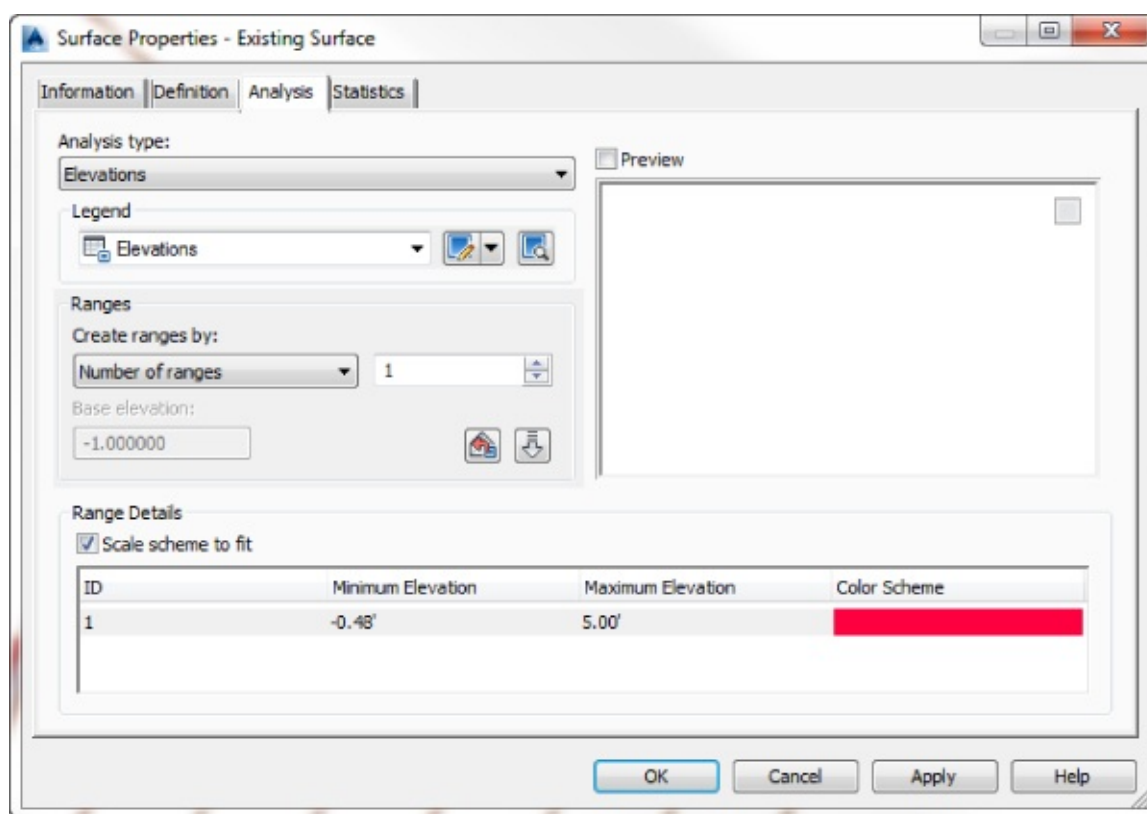

Figure 4.43 The Surface Properties dialog after manual editing
16. Change Maximum Elevation for ID 1 to 5 (or 1 for metric users), as shown in Figure 4.43.